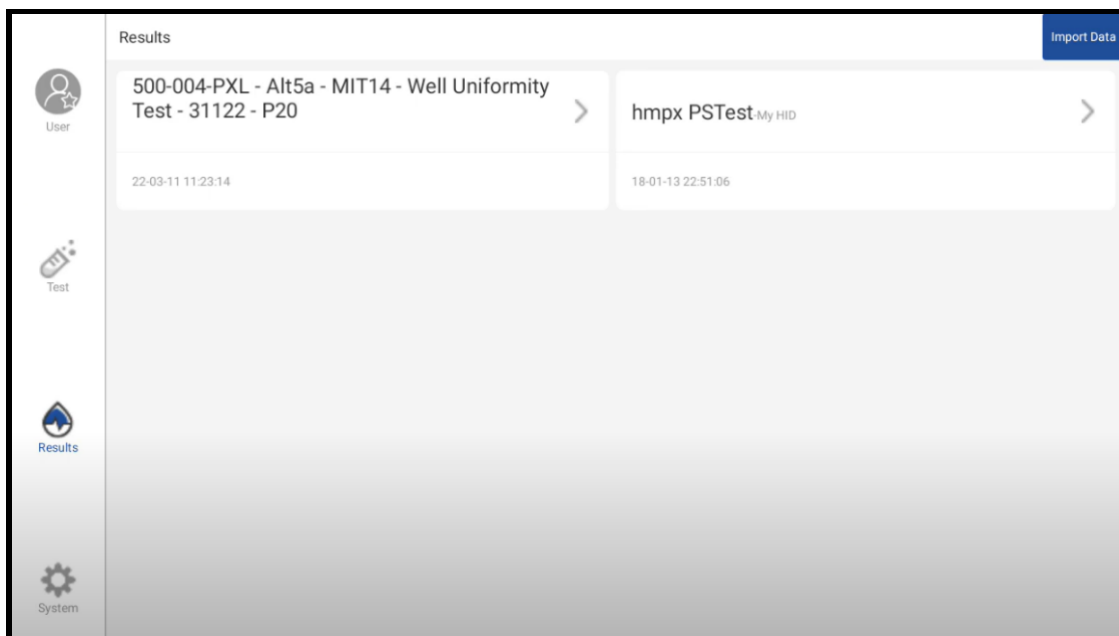
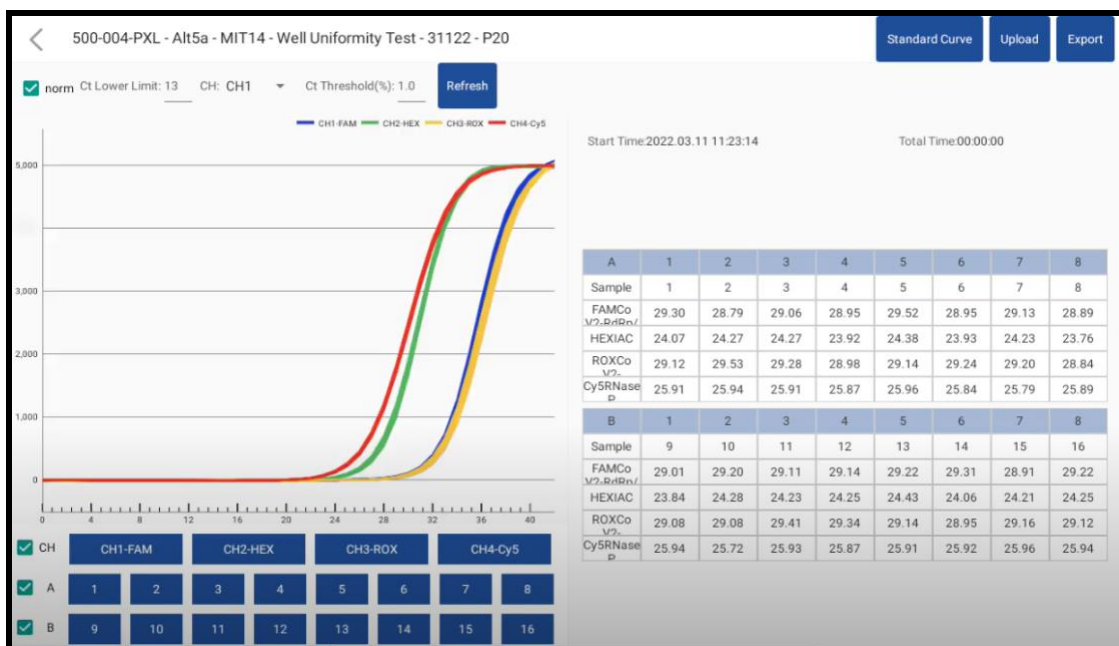

Figure 4.7. pixl™ Real-Time PCR Platform Result analysis interface.
Figure 4.8. pixl™ Real-Time PCR Platform Result thermocycling amplification curves presentation.
1. Click the "Result" Tab on the main page to enter the Result Analysis (Figure 4.7). Click on any one of the experimental result files to view completed PCR Results (Figure 4.8).